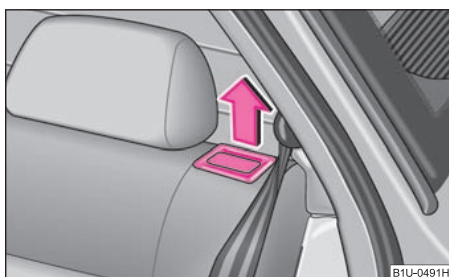

Fig. 65 Unlock the seat backrest
- Unlock the seat backrests by pulling the securing knob ⇒ fig. 65 and fold them forwards.